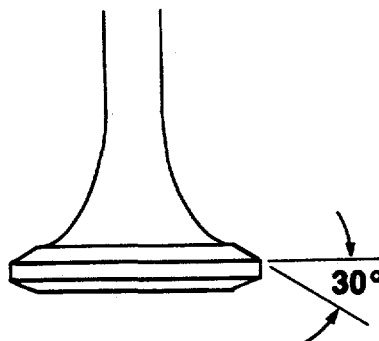

FIGURE 4-34. Valve Grinding Angle.
- (1) Clean valve with solvent.
- (2) Use valve facing machine to grind valve to angle shown in FIG. 4-34.
- (3) Ensure intake and exhaust valves are machined to the same angle.